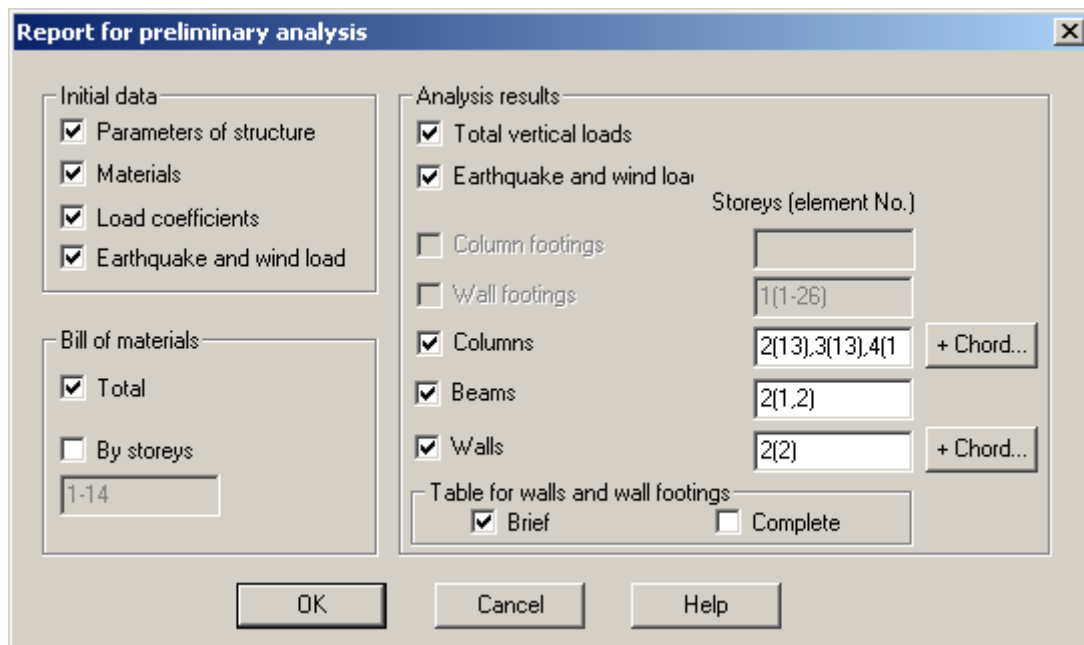

Figure 1.19.5 **Report for preliminary analysis** dialog box
- ⇒ In the **Report for preliminary analysis** dialog box (see Fig.1.19.5), do the following: